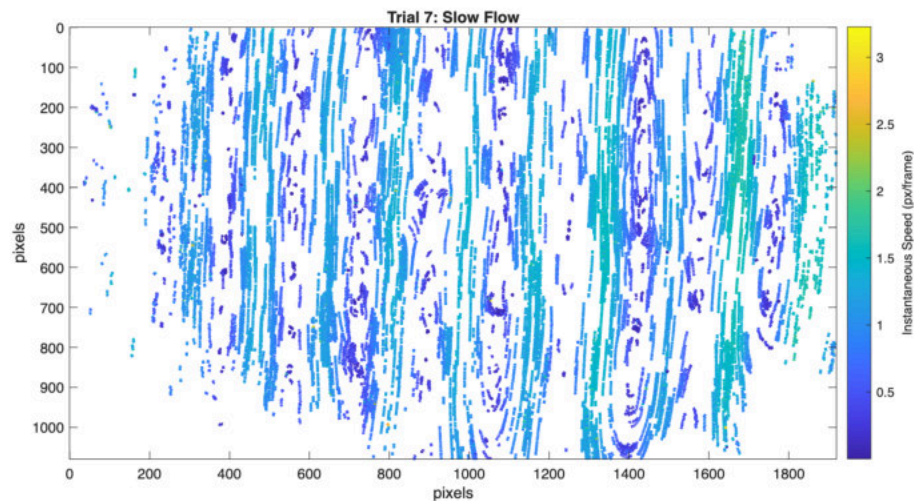
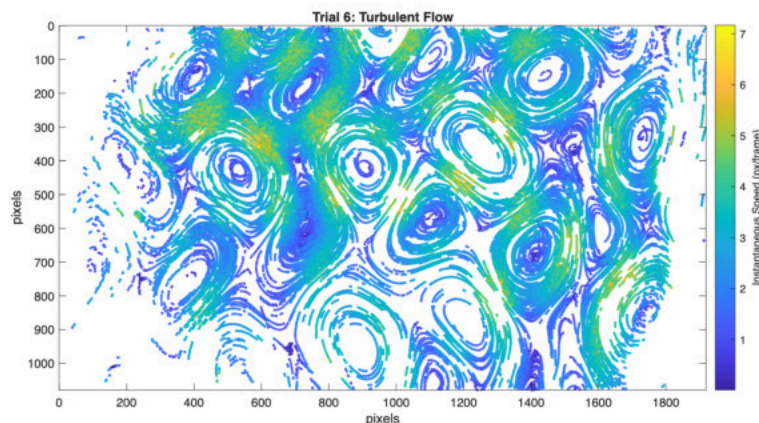
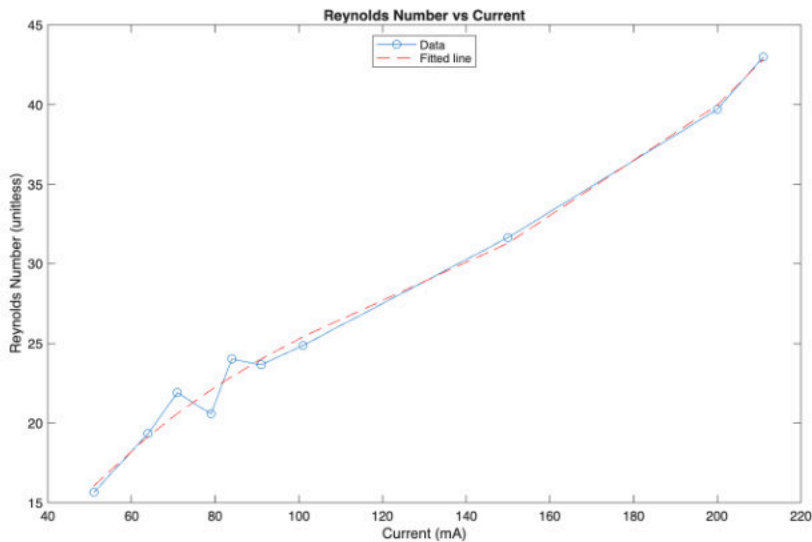
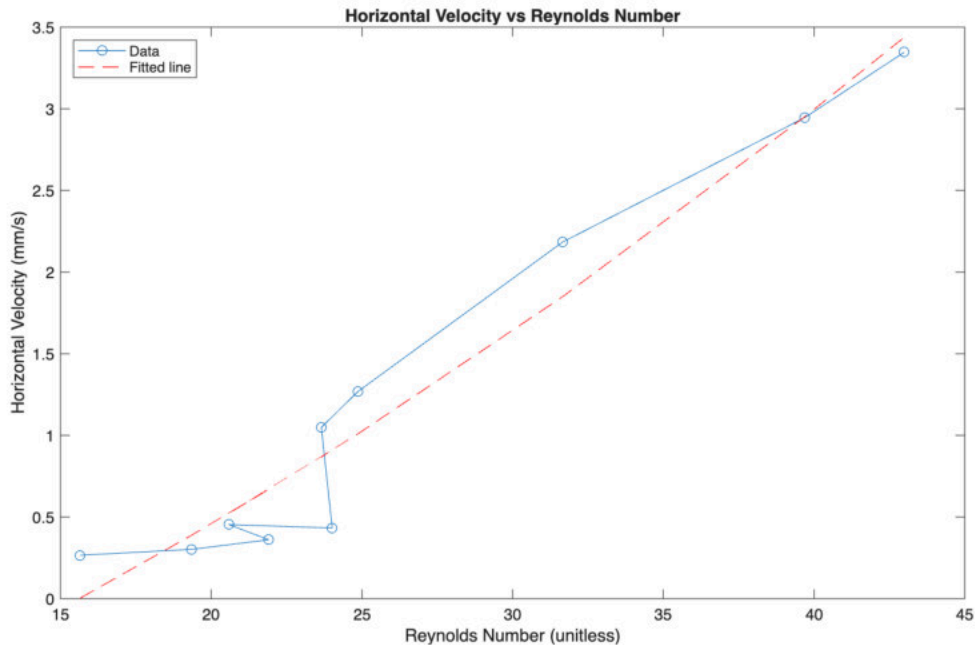

Figure 1. Track Plot of Slowest movie.
Figure 2. Track Plot of Fastest movie.
Figure 3. Reynolds number variate with applied current.
Figure 4. Root-mean-square of horizontal velocity vs Re.
Figure 1. Track Plot of Slowest movie. The plot demonstrated the tracks of particles from the first 100 frames. The colors of the lines represent the instantaneous speed of particles. In this plot, the tracks of slow flow tend to be shear bands.
Figure 2. Track Plot of Fastest movie. The plot demonstrated the tracks of particles from the first 100 frames. The colors of the lines represent the instantaneous speed of particles. In this plot, the tracks of fast flow tend to be turbulent.
Figure 3. Reynolds number variate with applied current. The fitted line used third degree polynomial fit, which shows that the Reynolds number is positively proportional to applied current.
Figure 4. Root-mean-square of horizontal velocity vs Re. The fitted line used second degree polynomial fit shows that horizontal velocity tends to be positively proportional to Reynolds number. At $Re = 24.0154$, the root-mean-square of horizontal velocity has a jump, which means it's the critical Re.
particles for each video and record the parameters used. Calculate the horizontal velocity using root-mean-square method and get the Reynolds number using Equation (1) with the velocity calculated by root-mean-square method. All the horizontal velocity must be converted into mm. Record all horizontal velocity and Reynolds numbers of each trail. Plot the velocity field of the fastest and slowest flow at 100th frame. To analyze the data, we need to collect all the Reynolds numbers calculated for each trail and the current of each trail. Then plot the Reynolds number vs the current change. In Figure 3, we can conclude that Reynolds number is positively proportional to the current. According to Figure 1 and Figure 2, the slow flows will exhibit the parallel shear bands, and the fast flows will have irregular vortices. Based on Figure 4, there is an obvious jump at Reynolds number of 24.0154, which represents that the horizontal velocity is changing largely. When we have large velocity, the flow will present complex vortices, which means the jump point is the critical Reynolds number.
In Figure 1, the plot shows the velocity field of the slow flow at the 100th frame. It demonstrates the shape of the slow flow is simple parallel shear bands, so that the horizontal velocity of the flow is relatively small because it tends to move vertically.
In Figure 2, the plot shows the velocity field of the fast flow at the 100 th frame. It demonstrates the shape of the fast flow is irregular vortices. In this motion, the flow will have larger horizontal velocity. Therefore, to differentiate the fast flow and slow flow, the horizontal flow would be a reference.
In figure 3, the plot of Reynolds number vs current shows that the Reynolds number are positively proportional to current, which means that Reynolds number can represent the flow with different currents. In the other hand, the Reynolds numbers are like the ID of the flows with different currents connected. Thus, we can plot the horizontal velocities vs Reynolds number.
In figure 4, the flows having large horizontal velocities are the ones having complex vortices. There is a jump at Re equals to 24.0154, which means the horizontal velocity changes from small velocity to higher velocity. This transition of horizontal velocities also represents the transition from slow flow to fast flow.